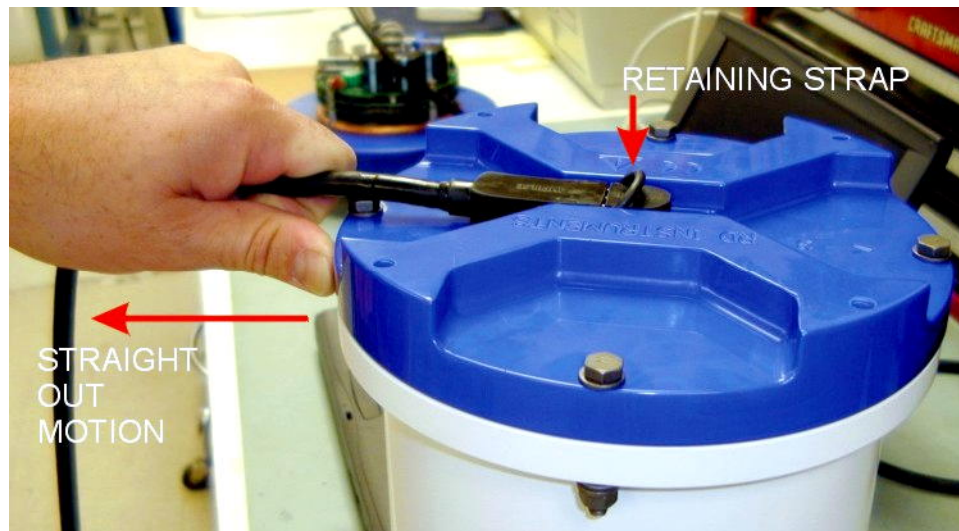

Figure 21. Removing the I/O Cable
- b. Grasp the cable close to the end-cap (see Figure 21, page 46). Your thumb should rest against the edge of the end-cap.